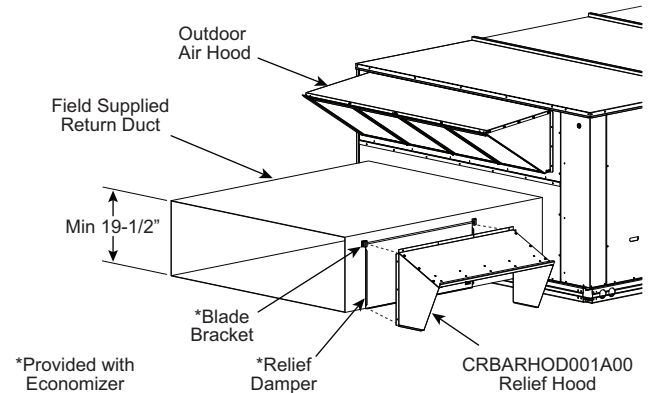

Fig. 29 — Installing CRBARHOD001A00 Over Relief Damper
4. Using the blade brackets, install the relief damper onto the side of the return duct (see Fig. 29). The two brackets and relief damper are provided with the economizer.
Caulk the backside of the mating flanges to ensure a water-tight seal. Install the CRBARHOD001A00 over the relief damper and screw to the return duct, as illustrated in Fig. 29.